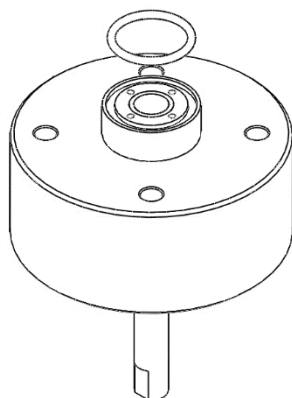

Figure 32: Installation of the O-ring to the EC cell.
13. Install the 10 mm O-ring into its groove at the bottom of the flow cell using a pair of tweezers. Place the O-ring on the groove (Figure 32) and press the cell into the mounting block (Figure 30j) Be careful not to touch the active surface of the working electrode.